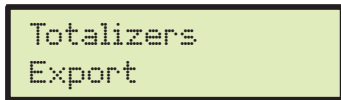

Fig. 71
- It is possible to save the totalizer reports on pendrive using the relevant function Export (Fig. 71).
- Select Export (Fig. 71) and press **OK**.